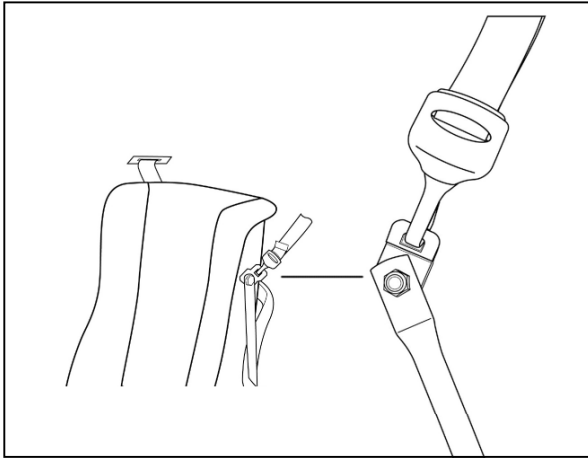

Figure 6: Attaching tether to upper side anchor bracket
3. Attach one tension adjuster hook to the upper side anchor bracket located on each side of the restraint. **See Figure 6.**